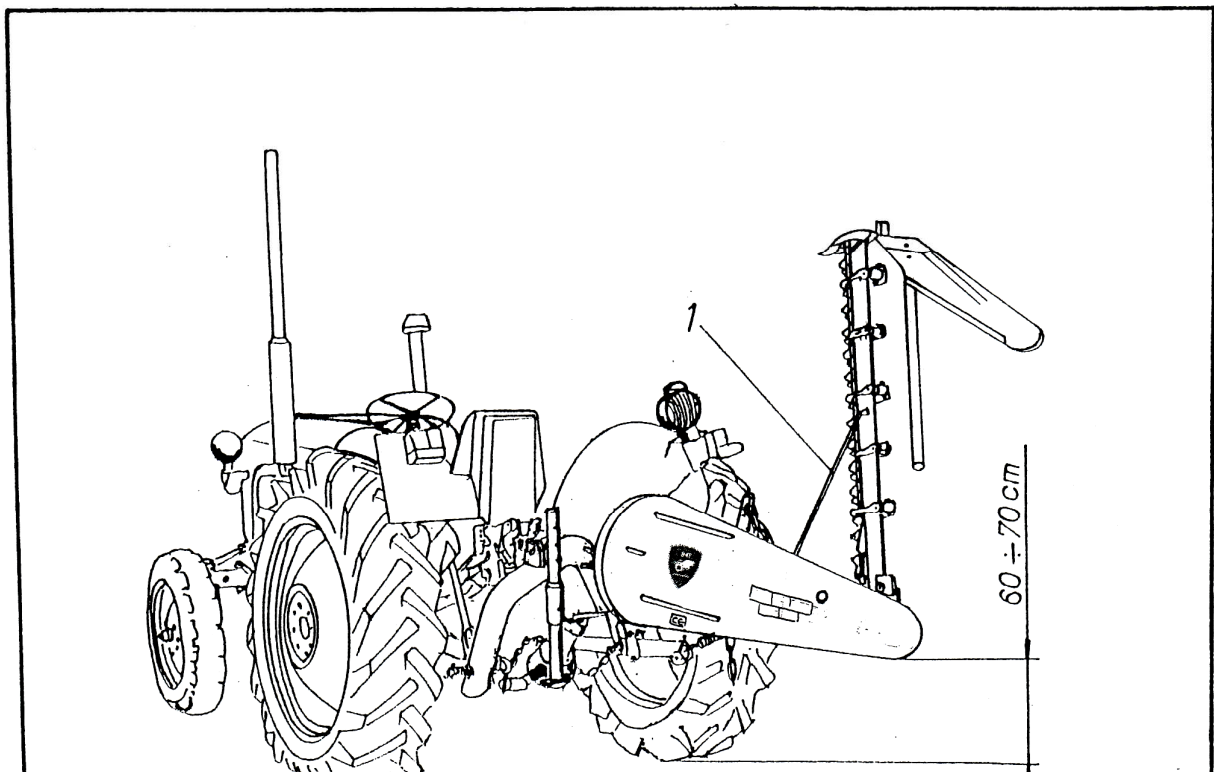
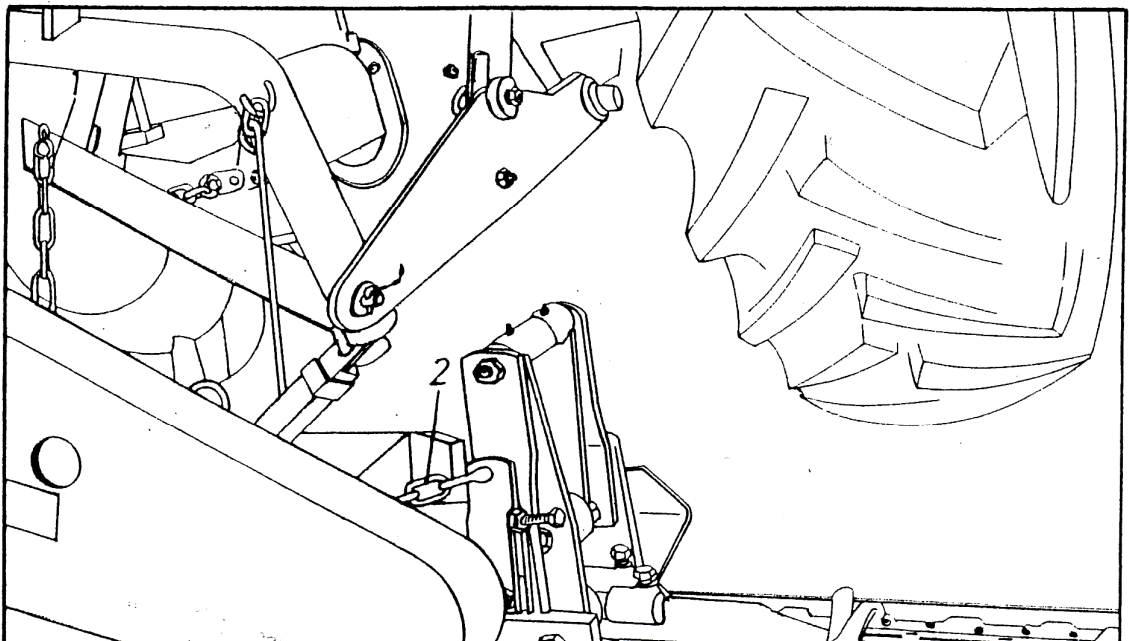
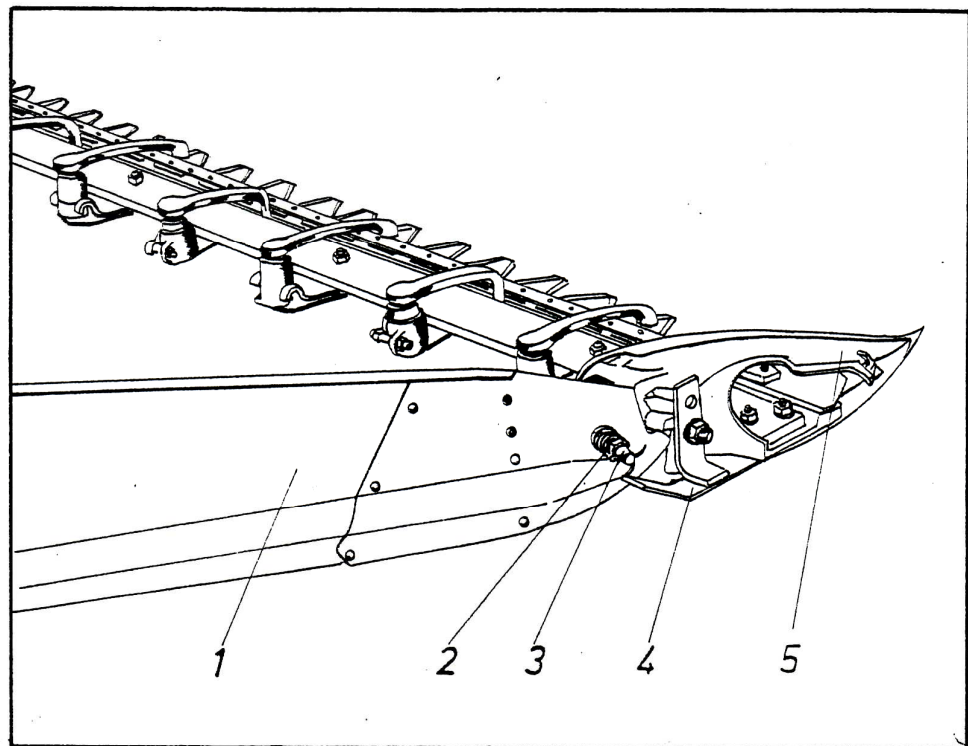

Figure 2
Figure 4
Figure 5
After assembly is carried out in the service workshop of certain sub-assemblies, the two-piece cutting-edge bars are delivered to the transport position as shown in Figure 2.
- Release the mower for the transport position (Fig. 2, Item 1) and attach it to the eyelet located on the mower's frame (figure 4, item 1).
- Using a chain (figure 4, item 3) and tightening (fig. 4, item 2), adjust the hair so that the beak hair (Figure 5, item 5) touches the ground.
- Adjustment of the cut height is done with slides under the canopy and under the beak (Figure 5, item 4), it should move in the range of 3 - 9 cm (recommended height 6 cm).
- Connect the shaft (item 1) using the screw (item 2) and the nut (item 3) with the beak on the cutting machine.